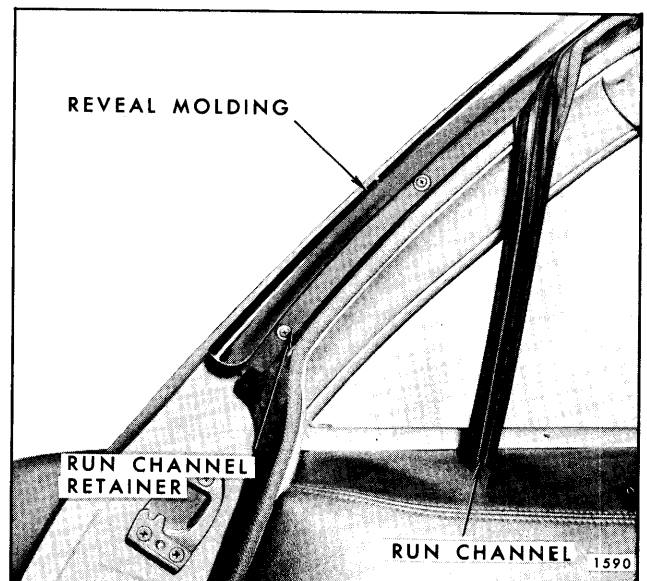

Fig. 9-23—Tail Gate Upper Glass Run Channel Retention
2. Once run channel has been removed, the retainer attaching screws are exposed. (See Fig. 9-23) The retainer can be adjusted by loosening attaching screws, shifting retainer to desired position and tightening screws. If retainer is removed, seal retainer with medium bodied sealer prior to installation.